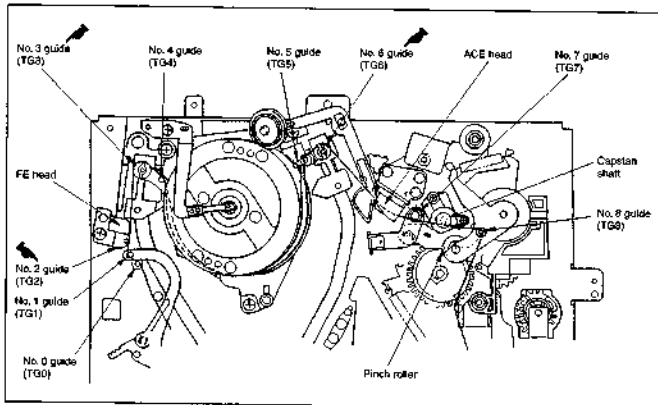

Fig. 2-1 Parts Requiring Cleaning
- Parts requiring a cleaning were changed in shape, and therefore, Fig. 2-1 for new type is added.